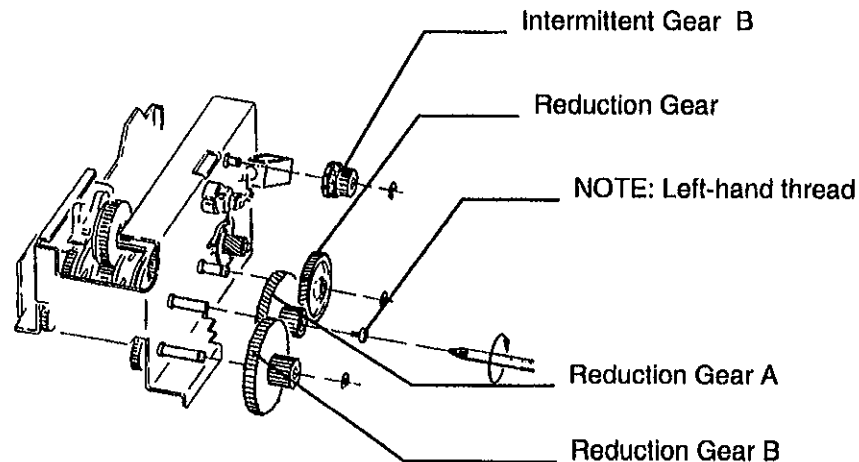

Figure 2. Removing the Drive Gears
- 3 (Figure 2) When removing the drive gears, observe that the reduction gear, A, is mounted with a left-hand thread screw.